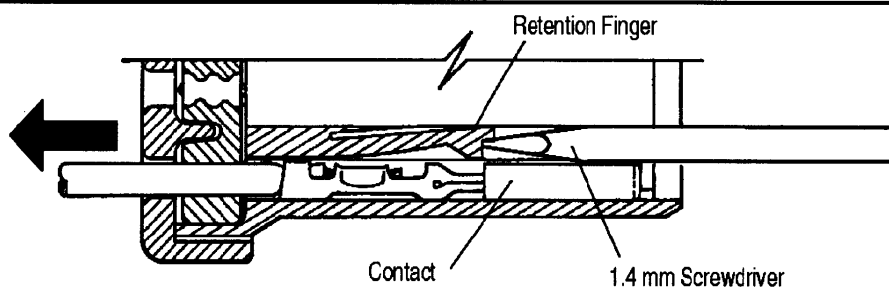

Figure 7
3. Insert a 1.4 mm screwdriver into contact cavity and deflect retention finger holding contact. Gently pull the wire until the contact is free from the housing. Repeat this procedure for the remaining number of contacts to be removed as shown Figure 7.